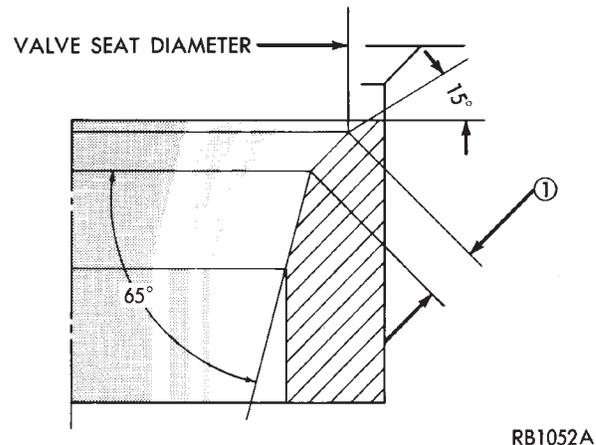
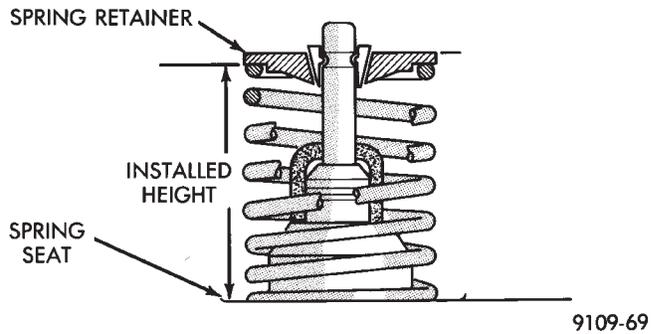

Fig. 16 Refacing Valve Seats
Fig. 17 Checking Spring Installed Height
(6) When seat is properly positioned the width of intake seats should be 1.87mm (0.73 inch) The width of the exhaust seats should be 2.00mm (.078 inch) (Fig. 16 Dimension 1).
(7) Check valve tip for scoring, if necessary, the tip chamfer should be reground to prevent seal damage when the valve is installed.
(8) Check the valve spring installed height after refacing the valve and seat (Fig. 17).
(4) Check installed height of springs. Measurement is to be taken from the lower edge of the valve spring to its upper edge. Do not include the spring seat or retainer flange. Correct height is 44.0mm (1.73 inches). If seats have been reground an additional spring seat may be required to maintain correct installed spring height (Fig. 17).
(5) Install camshaft and rocker arms as previously described, see Camshaft-Install.